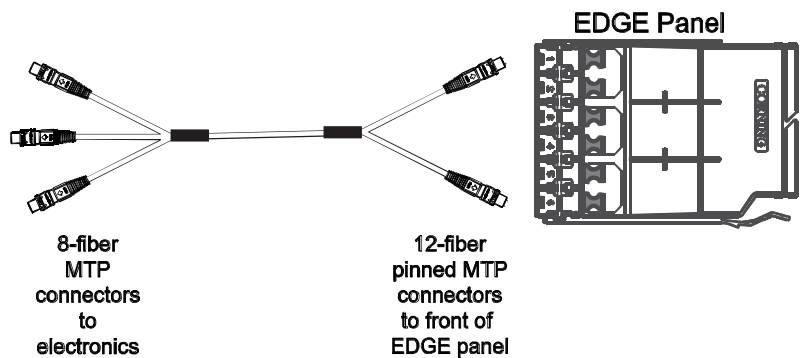

Figure 24 — Typical Harness Configurations
Step 5: Clean the connectors at the end of the harness, jumper, or trunk and mate in the electronics equipment as illustrated in Figure 24 per instructions provided with that equipment or according to your installation plan.